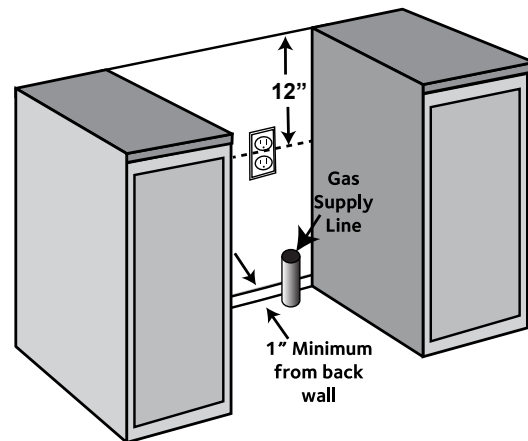

Figure 3
- Gas supply should be located near the opening for this cooktop and be a minimum of 1" from the back wall (see Figure 3). This cooktop is set for natural gas and is designed to operate at 5" water column pressure. The regulator is required to provide a minimum of 6" water column to a maximum of 14" water column to the cooktop regulator.